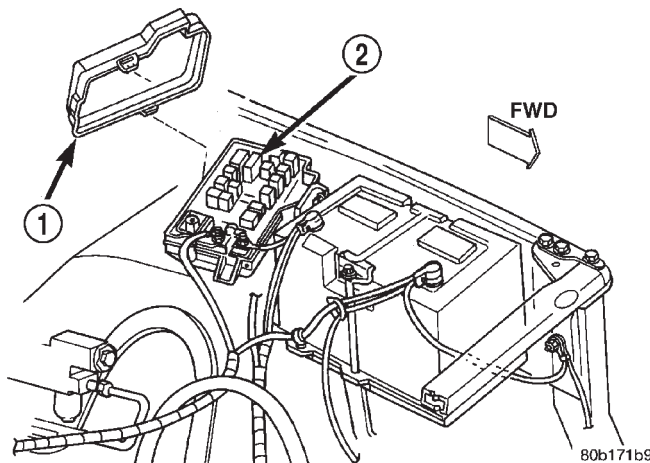

Fig. 11 Power Distribution Center
(1) Disconnect and isolate the battery negative cable.
(2) Remove the cover from the Power Distribution Center (PDC) (Fig. 11).
(3) See the fuse and relay layout label affixed to the underside of the PDC cover for wiper relay identification and location.
(4) Remove the wiper relay by grasping it firmly and pulling it straight out from the receptacle in the PDC.
(1) See the fuse and relay layout label affixed to the underside of the PDC cover for the proper wiper relay location (Fig. 11).
(2) Position the wiper relay in the proper receptacle in the PDC.
(3) Align the wiper relay terminals with the terminal cavities in the PDC receptacle.
(4) Push firmly and evenly on the top of the wiper relay until the terminals are fully seated in the terminal cavities in the PDC receptacle.
(5) Reinstall the cover onto the PDC.